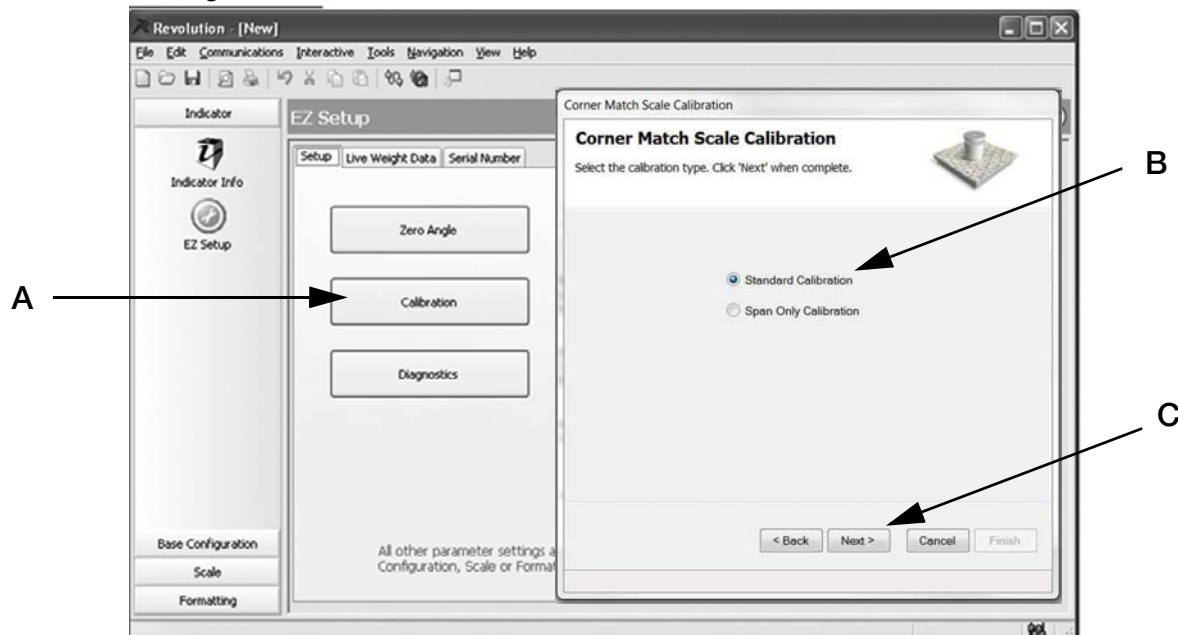

Figure 4-9. Enter Calibration
1. Select **Standard Calibration** (Figure 4-9 B)
2. Press **Next** (Figure 4-9 C).